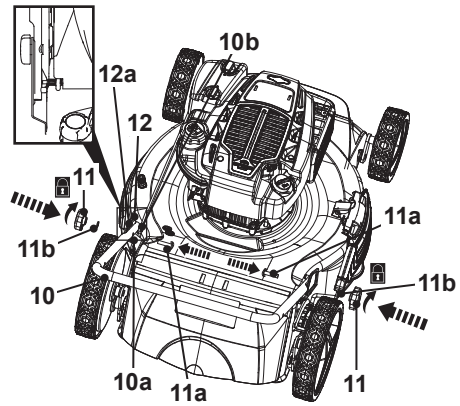

Fig. 2
3. Align the mounting holes (10a, 12a) of the lower handle bar (10) with the two handle brackets (12) and make sure that the spigot (12b) of the handle bracket (12) engaged in the location hole (10b) of the lower handle bar (10) on both sides (Fig. 2, step 1).
4. Pass the mounting bolt (11a) through the mounting holes (10a, 12a) to the end (Fig. 2, step 2), then attach the washer (11b) and the locking knob (11).
5. Secure the lower handle bar (10) with the hand brackets (12) by turning the locking knob (11) clockwise for tightening (Fig. 2, step 3). Make sure that the self-propelling wire (7), the speed wire (8) and the brake wire (9) run on the upper side of the lower handle bar (10).